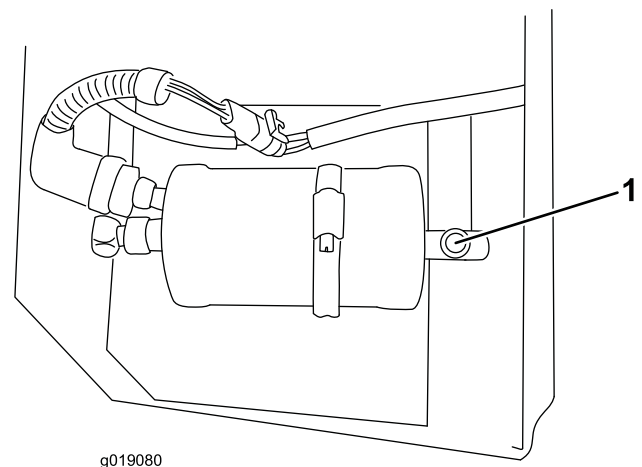

Figure 6
1. Using the sight gauge in the collecting tank, check on refrigerant level (Figure 6).